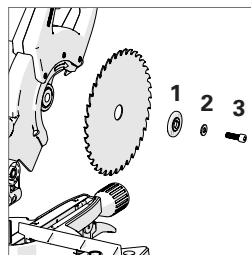

Fig. 41
Install the outer flange (1) (flat face onto the machine), washer (2) and arbor screw (3). (Fig. 41)